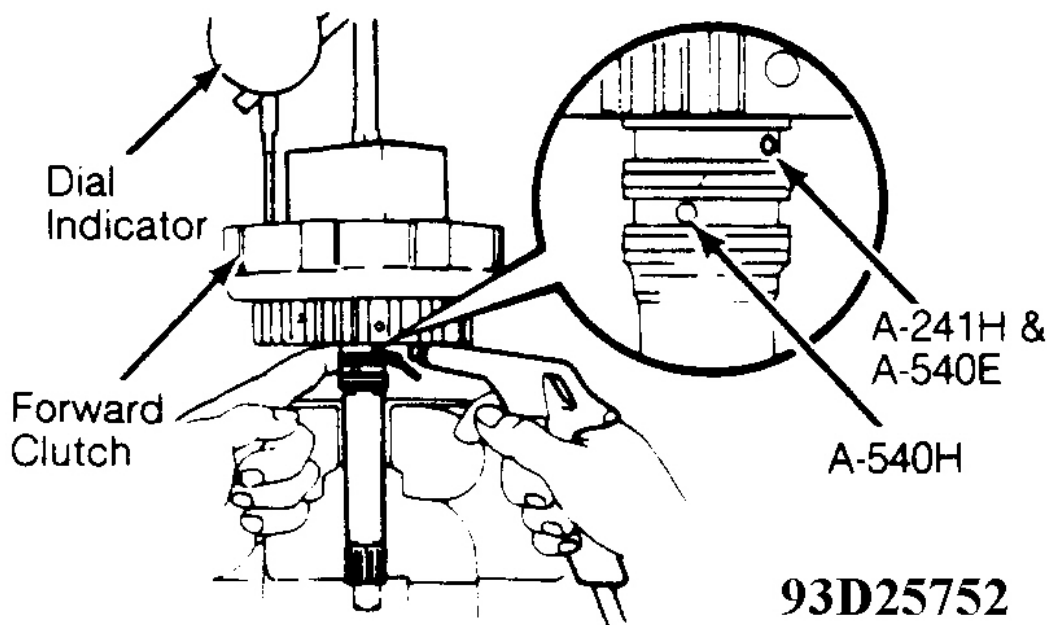

Fig. 21: Checking Forward Clutch Piston Stroke
1. Prior to disassembly, check piston stroke of forward clutch. Using a dial indicator, measure piston stroke by applying and releasing 54-114 psi (4-8 kg/cm²) of compressed air. See **Fig. 21**. Piston stroke should be .0555-.0717" (1.410-1.820 mm) for A-540E and A-540H. If piston stroke is greater than maximum, inspect each component.
4. If disc, plate or flange have been replaced, check piston stroke. Measure piston stroke by applying 57-114 psi (4-8 kg/cm²) of compressed air. See **Fig. 21** .